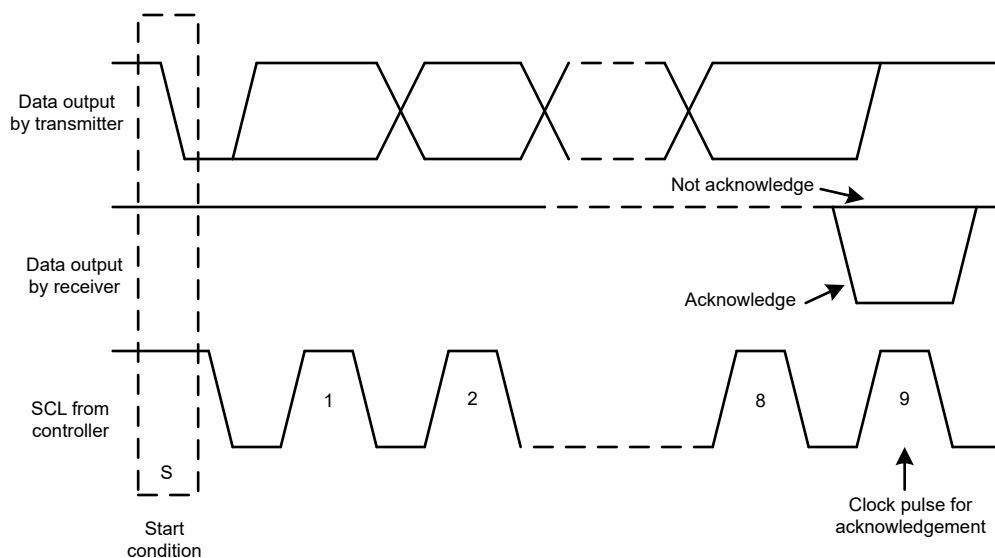
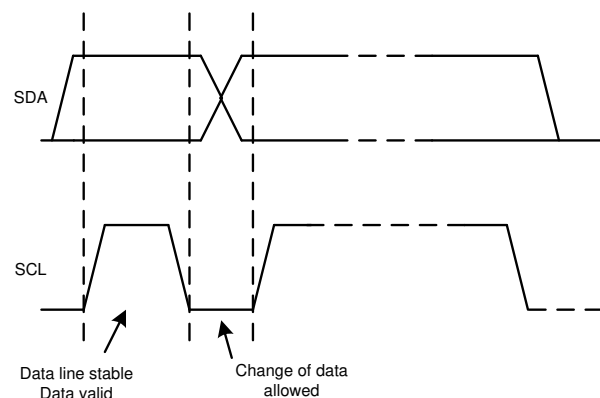

Figure 6-20. Acknowledge and Not Acknowledge on the I²C Bus
Figure 6-22. Bit Transfer on the I²C Bus
Other than specific timing signals, the I²C interface works with serial bytes. At the end of each byte, a ninth clock cycle generates and detects an acknowledge signal. An acknowledge is when the SDA line is pulled low during the high period of the ninth clock cycle. Figure 6-20 depicts a not-acknowledge, when the SDA line is left high during the high period of the ninth clock cycle.
2. The controller then generates the SCL pulses, and transmits the 7-bit address and the read/write direction bit (R/\bar{W}) on the SDA line. During all transmissions, the controller makes sure that data are valid. Figure 6-22 shows that a valid data condition requires the SDA line to be stable during the entire high period of the clock pulse. All devices recognize the address sent by the controller and compare the address to the respective internal fixed address. Only the target device with a matching address generates an acknowledge by pulling the SDA line low during the entire high period of the 9th SCL cycle (see also Figure 6-20). When the controller detects this acknowledge, the communication link with a target has been established.